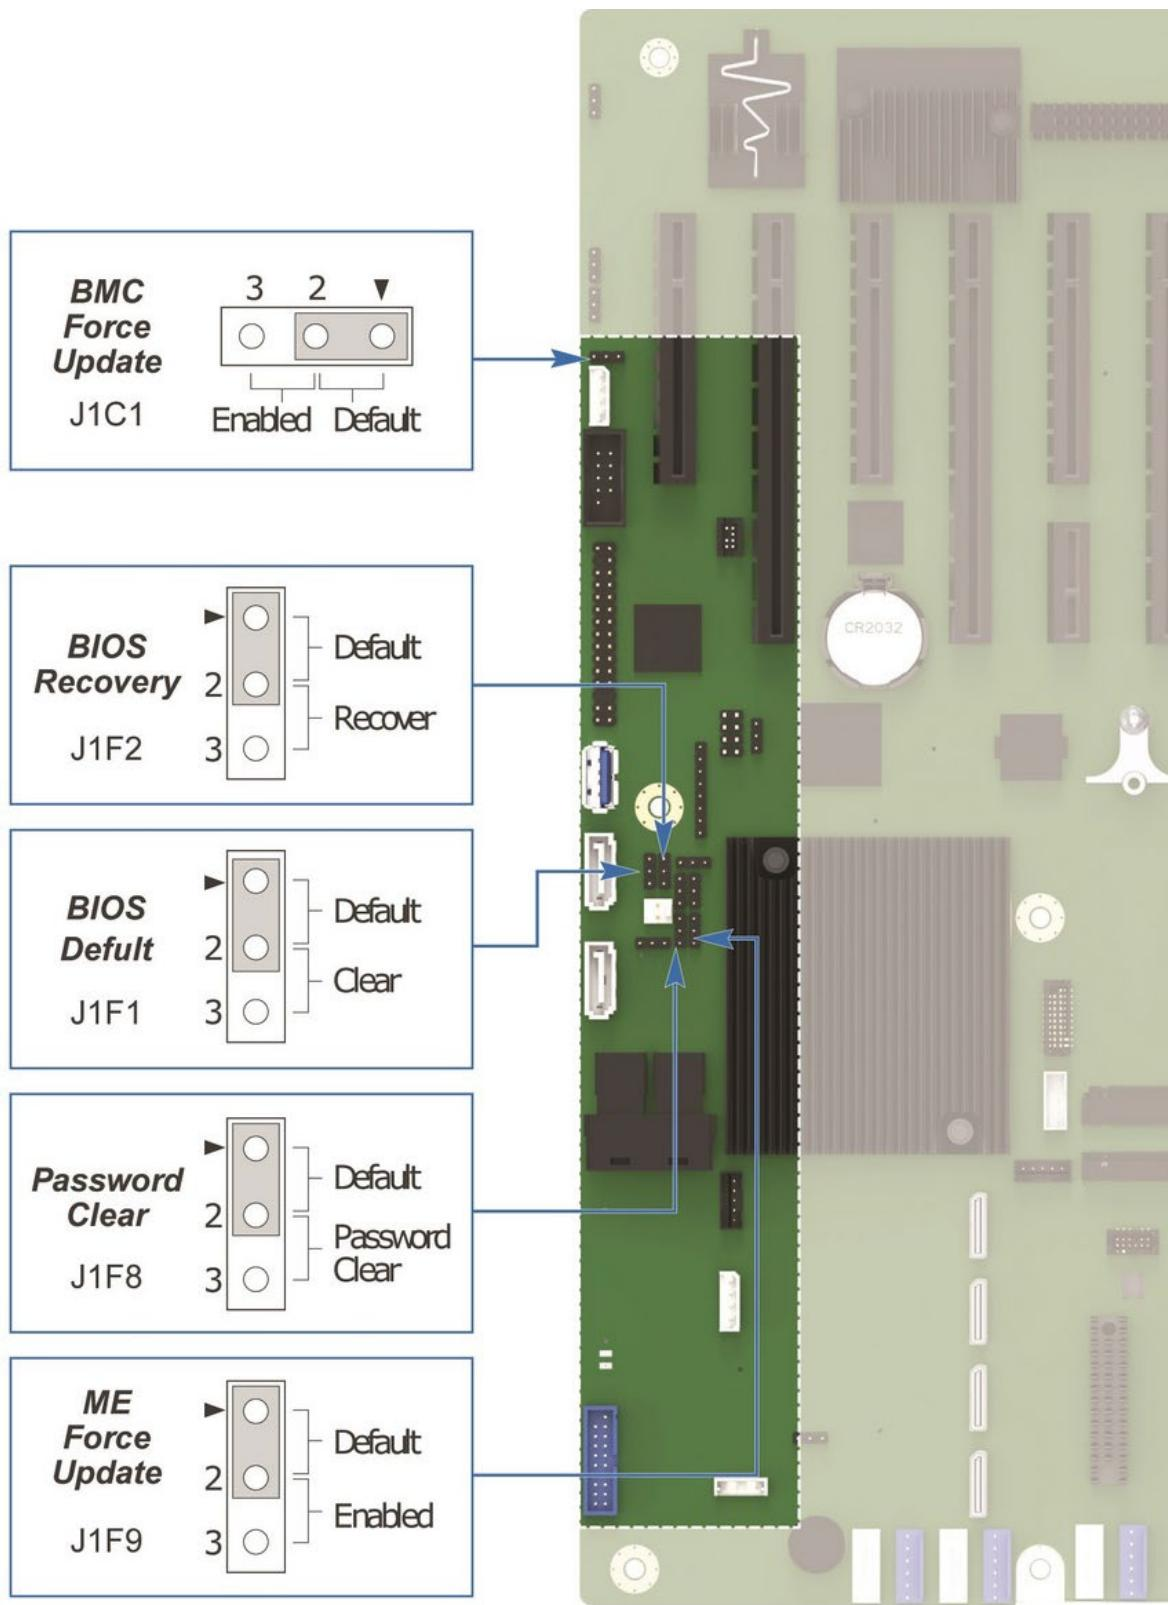

Figure 6. Jumper block identification
- The recovery mode jumper causes the BIOS to boot in recovery mode. See Figure 6 for jumper location.